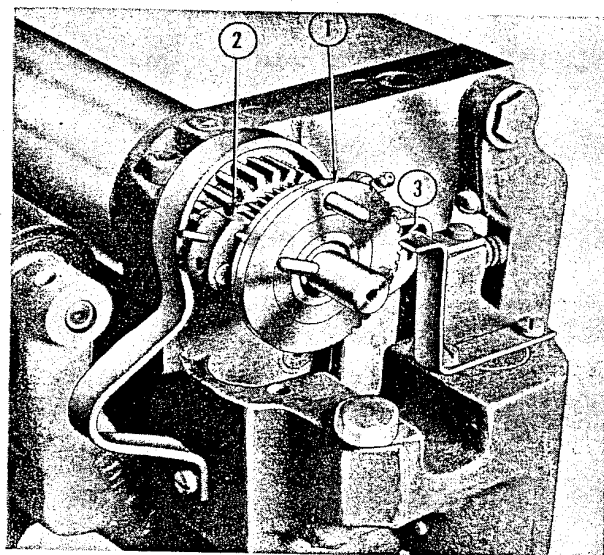

Figure 30—Fountain Blade Roller Feed Setting
(2) **HOW TO SET FOUNTAIN ROLLER FEED.** (See figure 30.)—The fountain roller is geared and timed to turn slightly with each press impression. The amount that the roller turns is determined by the setting of a cam set-wheel (1) which controls the movement of the fountain roller pawl and ratchet (2). Figure 30 shows the recommended setting (set-wheel spring (3) engaged in eighth notch of set wheel) when starting a job. With set wheel in this position, each notch in set wheel will represent  $\frac{1}{8}$  full ink flow, thereby permitting, by moving the position of the spring, ink flow to be reduced as low as  $\frac{1}{8}$  full flow.